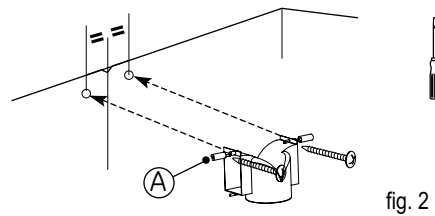

fig. 2
- Using the two screws (fig. 2), attach the plastic smoke deflector against the wall, flush with the ceiling for support. Be careful to centre the deflector in relation to the vertical line drawn on the wall (fig. 2).
- For models up to 700 mm, add the 2 struts supplied in the pocket (A/fig. 2).